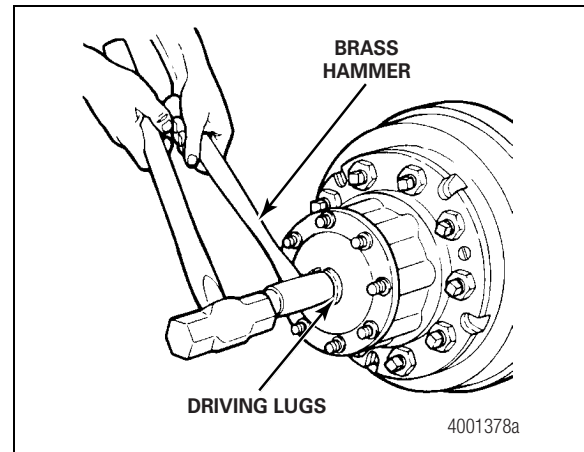

Figure 3.6
- Hold a 1-1/2-inch (38 mm) diameter brass drift or hammer against the center of the axle shaft, inside the round driving lugs. Figure 3.6.
4. Remove the tapered dowels and separate the axle shaft from the main axle hub assembly. Figure 3.6.